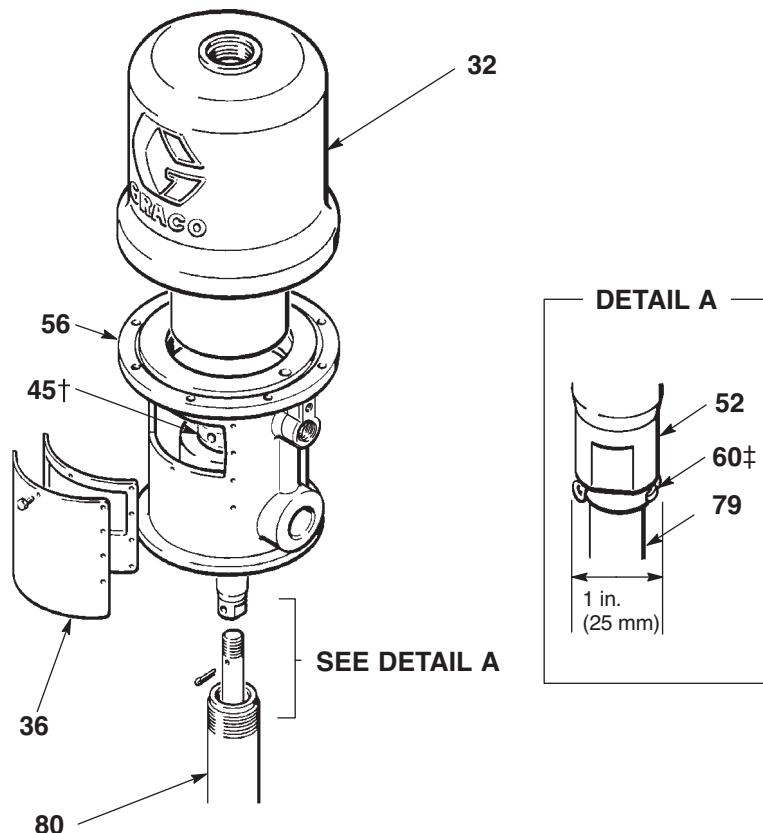

FIG. 6
See FIG. 6 and the parts drawing and list on pages 14 and 15 for further information.
8. Insert the bearing (46) and the washer (44) into the base. Assemble the female gland (48), v-packings (49), and the male gland (47) into the packing nut (45).
9. Reinstall the spacer and packing in the base and packing nut (45). Screw the packing nut into the base and tighten it securely. Carefully slide the piston rod (52) down through the throat packing and lower the piston into the base. Reinstall the plate (36) and cylinder (32). Reassemble the air motor to the displacement pump.
10. Torque the outlet adapter (42) to 45 to 55 ft-lb (61 to 75 N.m).
NOTE: When reinstalling the cotter pin (60), **always** spread and flatten the pin (both the head and prongs) around the rod to within 1 inch (25 mm) total diameter. see Detail A of FIG. 6.